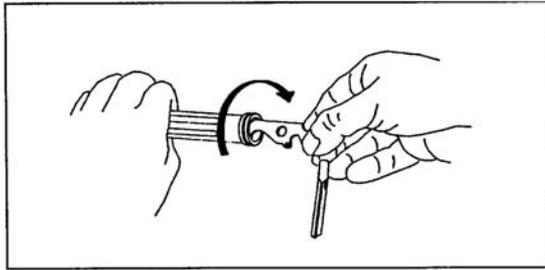

Figure 071-312-4025-19. Cleaning of the gas cylinder's internal grooves
(3) Clean the three grooves of the piston using a full, 360-degree circular motion (figure 071-312-4025-20).